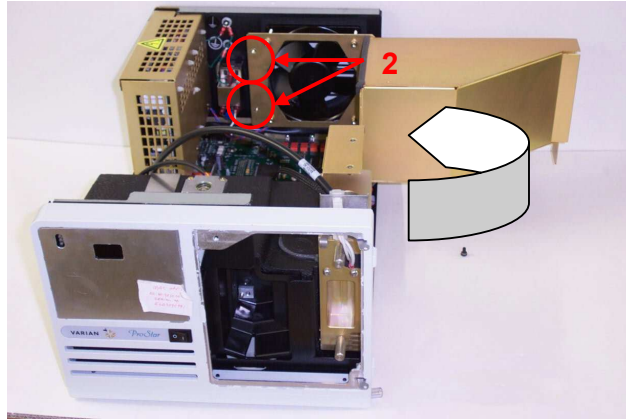

Figure 2: Removing the Fan Baffle
4. Locate and remove the two screws at the rear of the detector (2) used to secure the fan baffle. Then, swing the baffle to the right as shown (Figure 2).